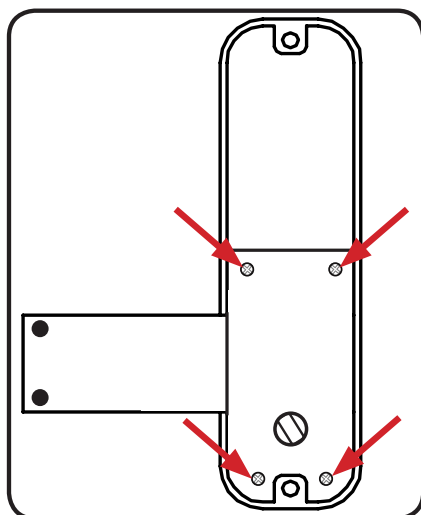

Fig.5
1. Turn the rim deadbolt over and remove the 4 screws as per **Fig.5**.